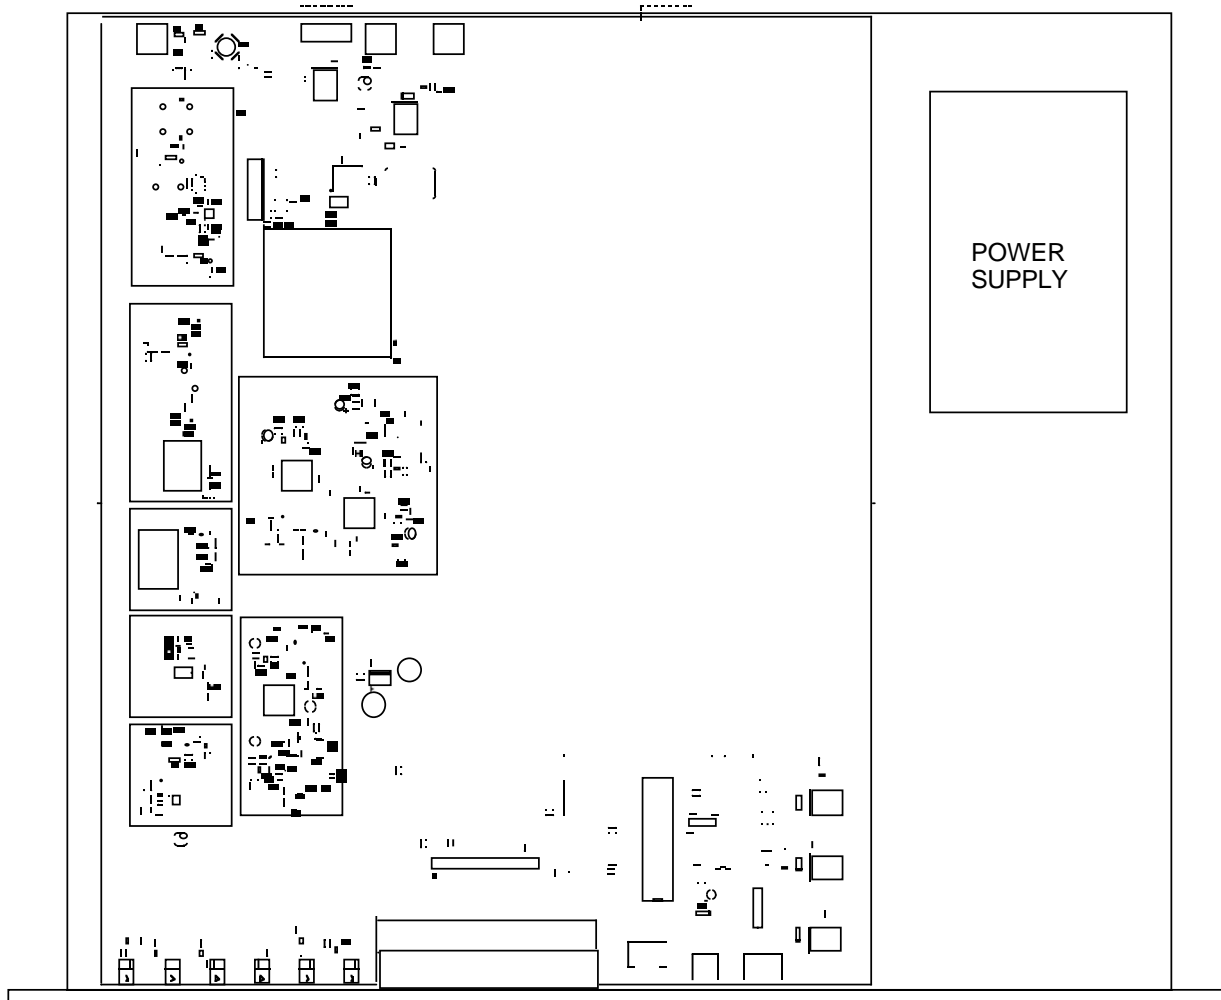

FIGURE 2.0 2015-03A Mechanical Assembly
2.1 Mechanical - The 2015-03A consists of one RF/Controller PCB housed in a 1 RU (1 3/4 inch high) by 16 inch deep chassis. A switching, ± 12 , $+24$, $+5$ VDC power supply provides power for the assemblies. The 2015-03A can be secured to a rack using the 4 holes on the front panel. Figure 2.0 shows how the 2015-03A is assembled.